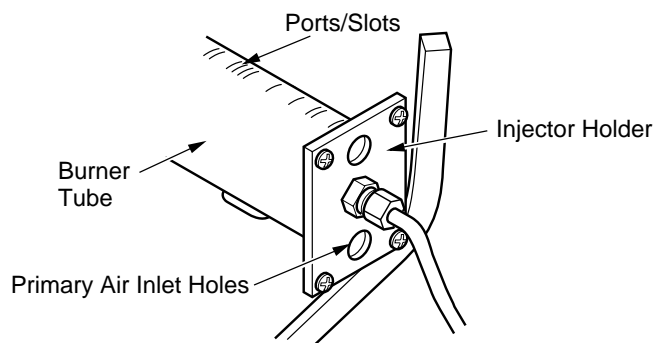

Figure 34 - Injector Holder On Outlet Burner Tube
2. Inspect burner, pilot, and primary air inlet holes on injector holder for dust and dirt (see Figure 34).